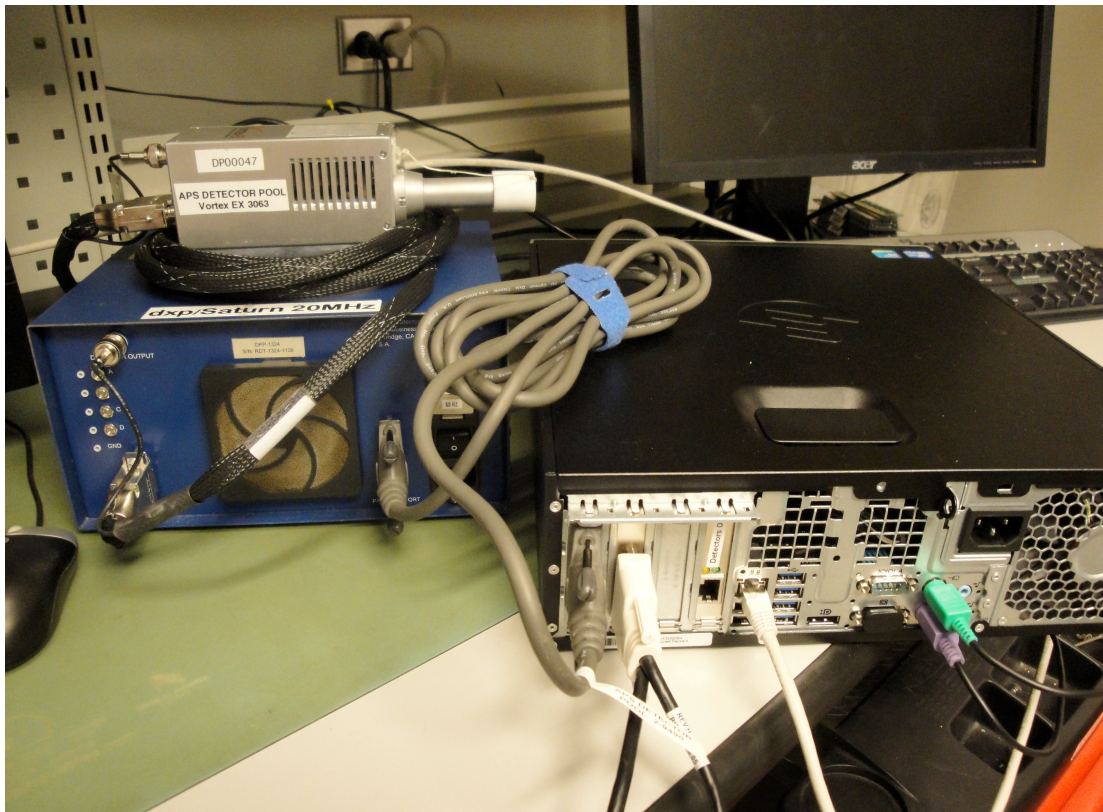

Figure 3: Basic connections. On the right is the xraydetector## PC. On the left is the Vortex detector with DXP-Saturn power supply (blue box).
1. Make connections as shown in Figure 3. Connect the Vortex detector to the DXP-Saturn power supply (blue box), and use a parallel port cable to connect a DP linux machine to the DXP-Saturn power supply. Connect the computer to the network via Ethernet cable (do not use the Ethernet port labeled Detector Only).